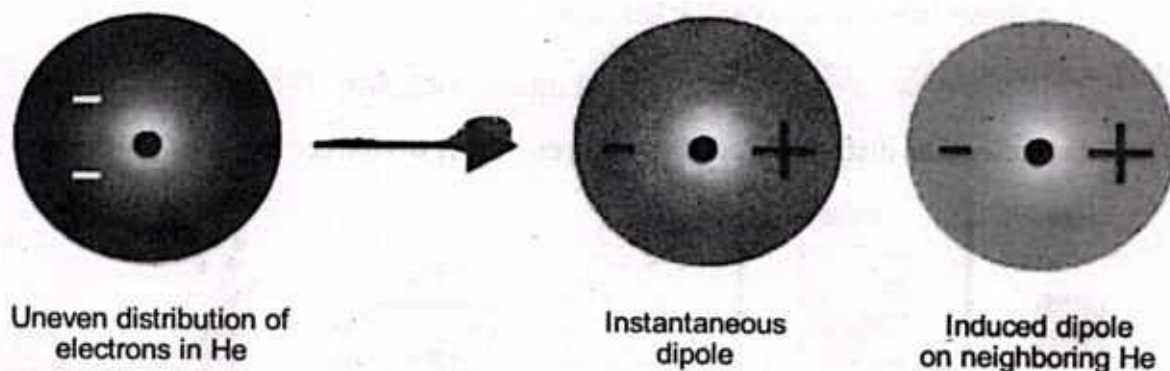

Fig. 7.7: London dispersion force
- d. London dispersion forces are the weak forces among non-polar molecules which may become polar for an instant. Like in gases the electronic cloud is evenly distributed among all atoms but at any given instant the cloud may be re-distributed to form an instantaneous dipole giving rise to London dispersion forces as shown in figure 7.7 for helium molecules.